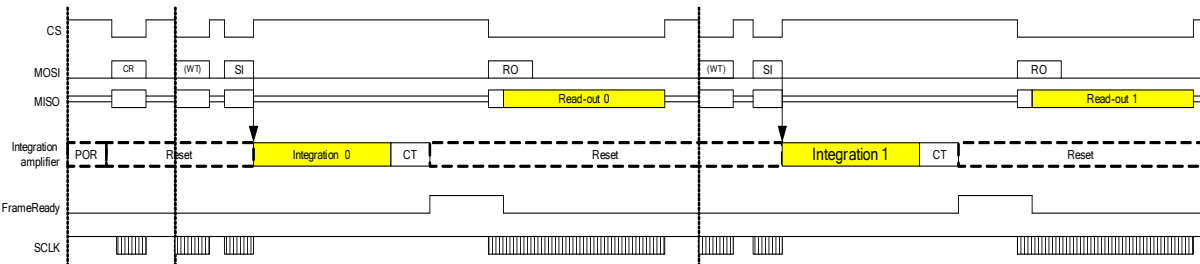

Figure 11: Global timing diagram
A global timing diagram is given in Figure 11. After power-up there is a Power-On-Reset phase (POR) to initialize the sensor in a reset state. The first command is a Chip Reset CR which is needed to fully initialize the device. The first integration cycle (Integration 0) is initiated by uploading a Start Integration SI command. After completion of the integration cycle, there is a minimum conversion time (CT) of a time t_{fr} after which the *FrameReady* goes high. This indicates that the read-out cycle can be started. When the read-out is completed, a new integration cycle can be started.
The first integrate/read-out cycle after power-on/chip reset is considered as a dummy scan and as such, the data has to be disregarded (“Read-out 0” in Figure 11).